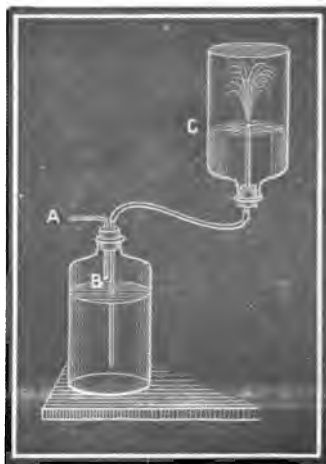

Fig. 22.—Ammonia Fountain.
Exp. 46 (45 concluded).—Quickly close mouth of bottle of ammonia by perforated rubber cork, through which passes a glass tube drawn to a fine point and connected with water colored *red* by slightly acidulated litmus solution. Hasten the action by forcing air into lower flask (through tube A B, Fig. 22, till a few drops of water reach the receiver (C) of ammonia. The gas dissolves so rapidly in the water that a partial vacuum is formed, and the outside atmospheric pressure acting through A B produces the “ammonia fountain.” The water turns blue as it enters the receiver.